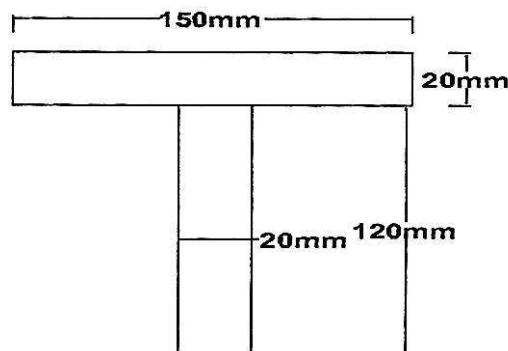

Fig. 9
7. (a) A T section 150 mm × 120 mm × 20 mm is used as a strut of 4 m long with hinged at its both ends. Calculate the crippling load, if Young's modulus for the material be 200 Gpa. (Refer Fig. 9) : [6]